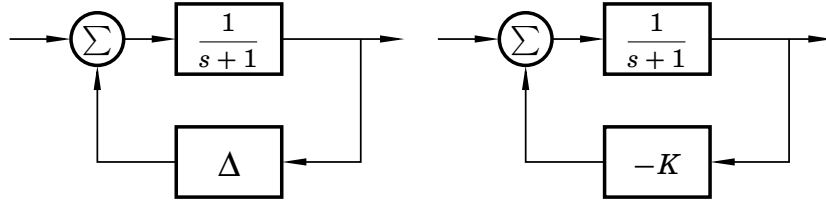

Figure 2.1 Systems in Problem 2.1.
- 2.1** **a.** Analyze the stability of the system to the left in Figure 2.1 using the Small Gain Theorem. For what values of the gain $\|\Delta\|$ can stability be guaranteed?
- b.** Analyze the stability of the system to the right in Figure 2.1, where K is a constant feedback gain. For what values of the gain K can stability be guaranteed? Explain why the result is different from that of **a**.